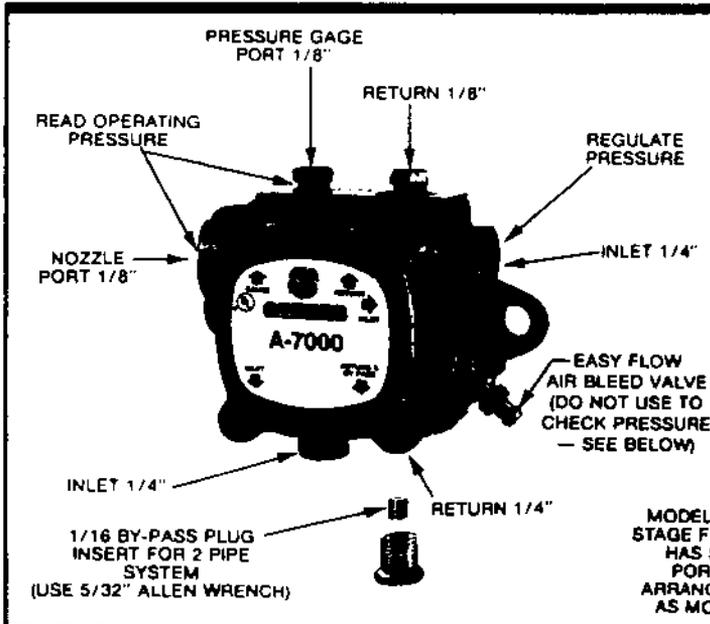

FIGURE 1
**REMOVE 1/16" BY-PASS PLUG FROM PLASTIC BAG ATTACHED TO UNIT.** Remove 1/4" plug from return port. Insert by-pass plug (See Figure 1 or 2). Attach return and inlet lines. Start burner — Air bleeding is automatic. Opening Easy Flow Air Bleed Valve will allow a faster bleed if desired. Return line must terminate 3-4" above supply line inlet (See Figure 5). Failure to do this may introduce air into the system and could result in loss of prime.